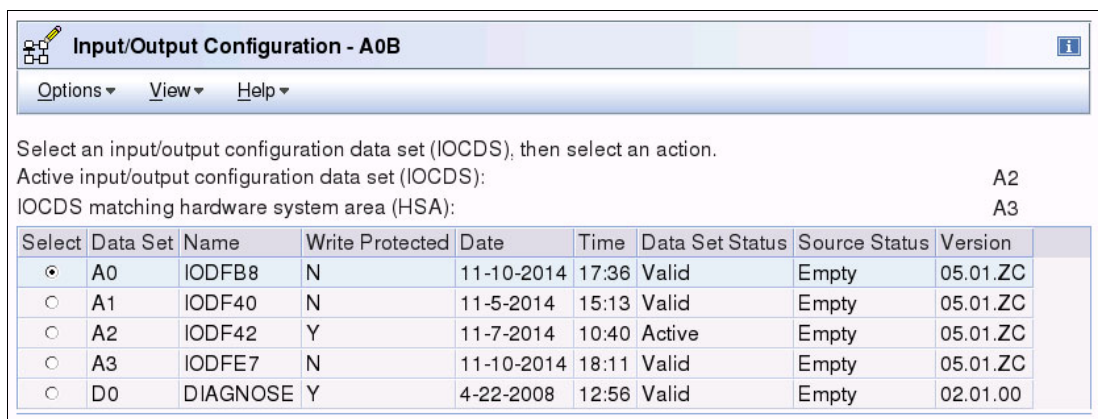

Figure 8-118 HMC - SAIOCP: IOCDs selection for import
- Select the data set into which you want to import the IOCDs (in this example, A0) as shown in Figure 8-118.